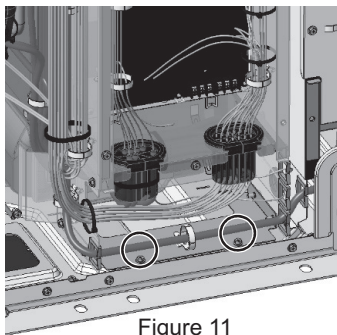

Figure 11
- (13) Unscrew the two screws holding the main control box. (See Figure 11.)